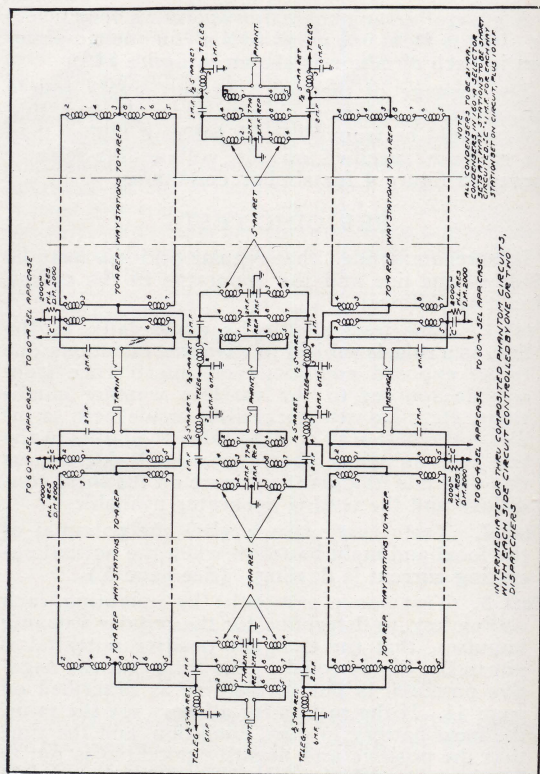

Fig. 14
4. Two selector circuits to be used as side circuits for obtaining a composited or simplexed phantom with the physical and phantom telephone and the telegraph circuits terminated at the same or different points. Figure 14 shows a general way of obtaining these conditions.
A general arrangement for operating four selector circuits from one point with a composited phantom in each direction is shown in figure 14.